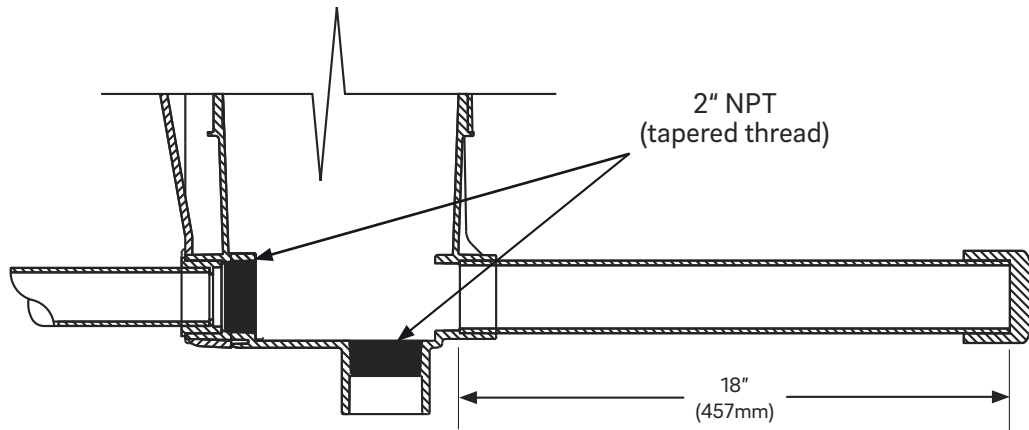
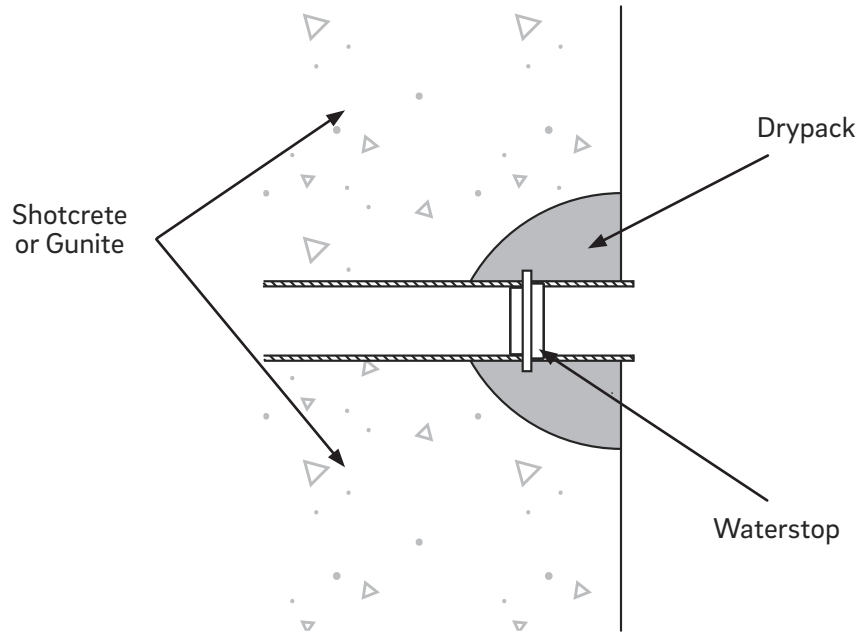

Figure 3
Figure 8
1. Glue an 18 inch length of 2 inch schedule 40 PVC pipe into the discharge port of the QuikSkim Ultra located at the lower front, below the mouth of the skimmer. Cap the end to prevent concrete from entering during the shotcrete or gunite process (Figure 3).
5. Once the shotcrete is complete, cut the capped pipe that was installed on the venturi discharge line (Figure 3) so that it will be flush with the finished surface. Add glue the pipe and slide a waterstop (Figure 9c) over the pipe, allowing enough room to dry-pack behind it to ensure a waterproof seal (Figure 8).